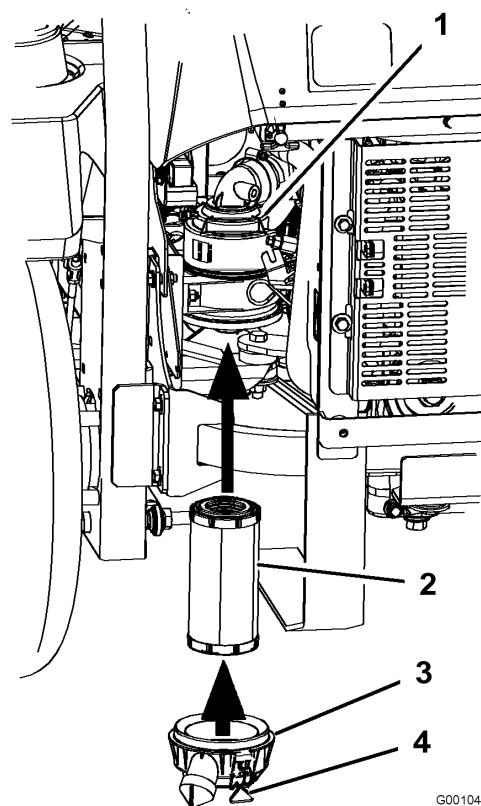

Figure 28
2. Carefully slide the filter into the filter body (Figure 28). Ensure that it is fully seated by pushing on the outer rim of the filter while installing it.
3. Install the air cleaner cover and secure the latches (Figure 28).